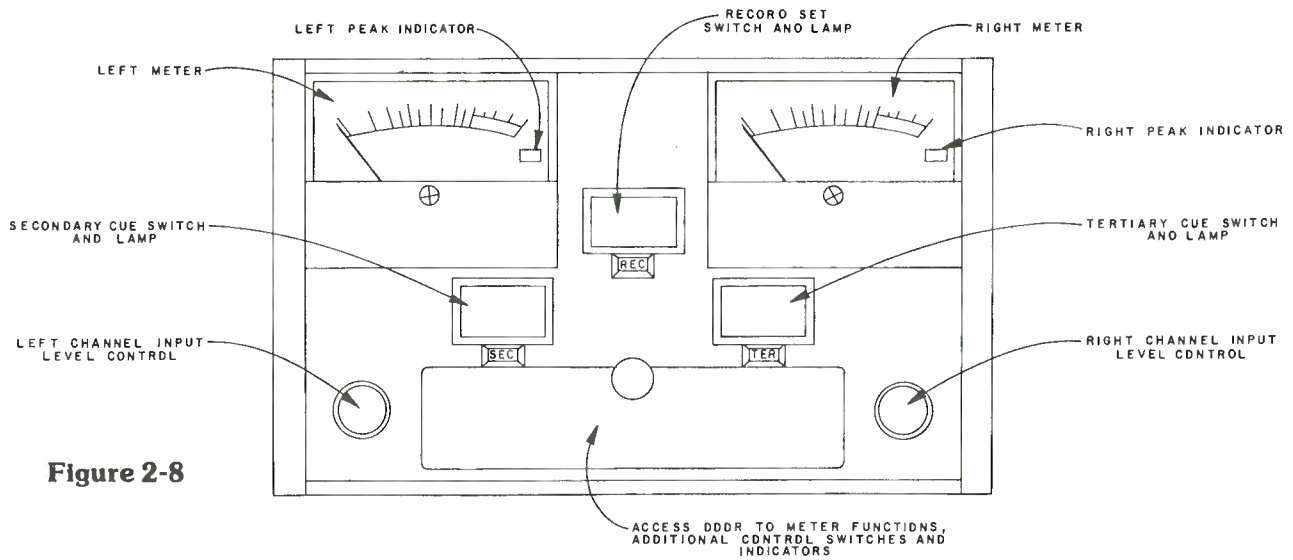

Figure 2-8
- 11. 1 kHz Cue Record —** Enables the operator to record a 1 kHz primary cue tone at any desired time as in the case of editing a tape. Automatic timing of the tone length is controlled by the micro-processor. The switch is active in a playback or recording mode. The 1 kHz cue detector is defeated while switch is depressed. (See Figures 2-8, 2-9, and 2-10.)
- 12. 1 kHz Cue Defeat —** Active only in a RECORD preset mode (no tape running -- READY and RECORD lamps on). When pressed, LED (directly above switch) latches on as an indication that the 1 kHz cue tone will not record automatically when the cartridge is started. (See Figures 2-8 through 2-10.)